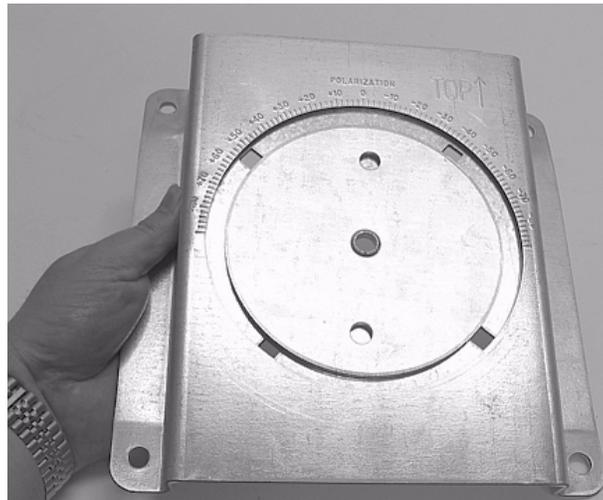

Figure 9: Aligning the revolving plate
3. Use one hand to hold the two plates together. Align the revolving plate so its four bolt holes are visible, as shown in Figure 9.